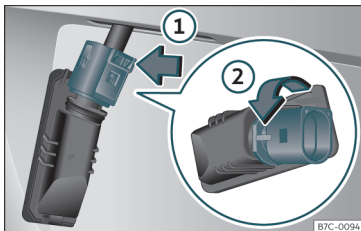

Fig. 96 Number plate light: detach the bulb holder.
3. Turn the connector lock »» **Fig. 96** in the direction of arrow ① and pull on the connector.
4. Rotate the bulb holder in the direction of arrow ② and extract it with the bulb.
6. Insert the bulb holder in the number plate light and turn in the opposite direction of arrow ② until it stops.